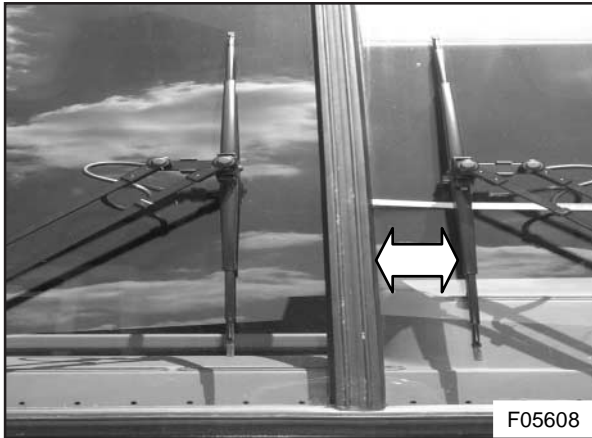

Figure 16 : Wiper to windscreen center post distance : 3 ¹³/₆₄ inch
- 21) Reinstall the left- and right-hand wiper arm assemblies. Before tightening the nuts, position the wiper arm as shown in Figure 16. The wiper blades should be about $3 \frac{13}{64}$ inch (82 mm) from the windshield center post (on a dry windshield).